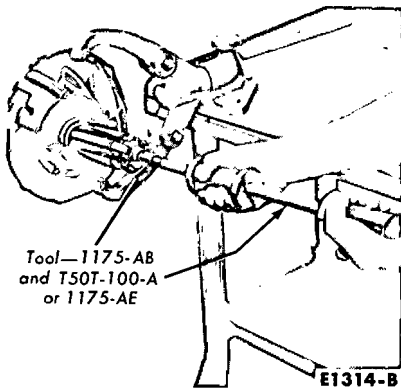

FIG. 37—Removing Pinion Seal
2. Remove the seal (Fig. 37) and the slinger.